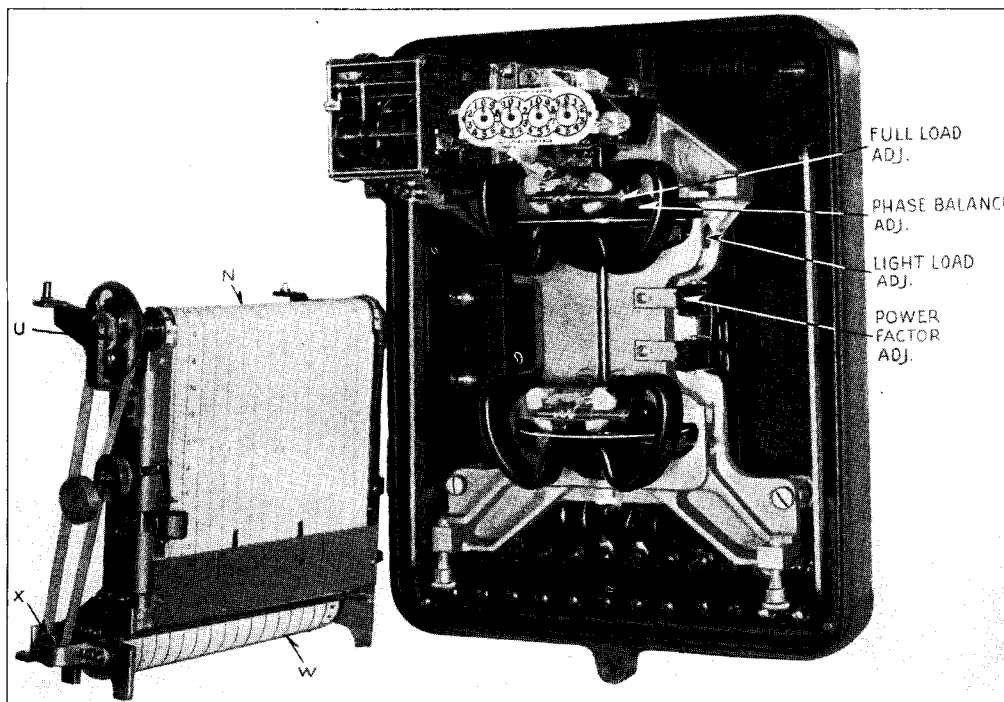
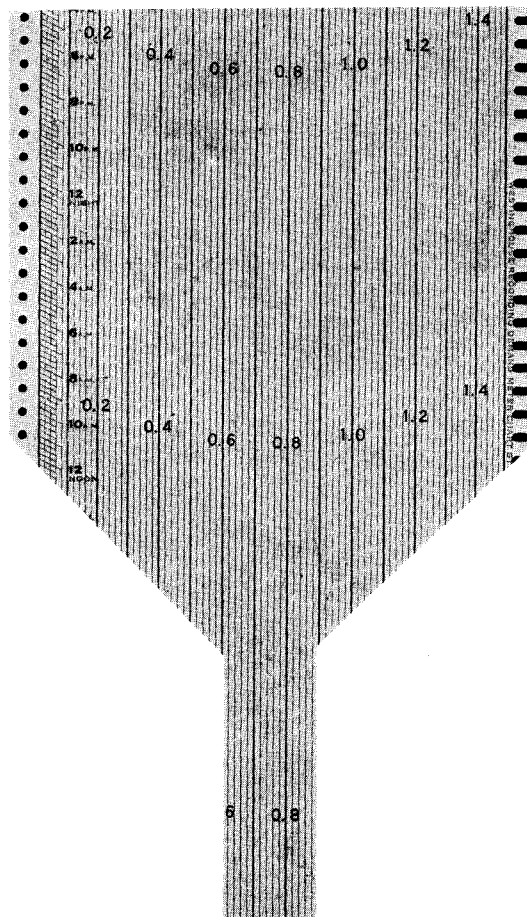

FIG. 5—RB METER WITH PAPER RE-ROLL MECHANISM REMOVED
FIG. 16—SUGGESTED METHOD FOR TRIMMING LEADING END OF PAPER CHART WHEN STARTING
3. Hold shaft (C) gearing and wind the spring $1\frac{1}{2}$ turns from the zero point.
4. Release shaft (C) gearing. The spring will then have the proper operating torque.
10. The only adjustment on this mechanism is screw (BE) which changes the position of arm (I) to make it release spring (3) at proper time. This is adjusted at the factory and should need no other attention. The paper chart unrolls from spindle (W) Fig. 5, passes upward over roll (N) on the re-roll frame and down between plates on reverse side to belt driven spool (X).
13. To feed on a new paper chart, slide the new roll endwise over the spindle (W), Fig. 5, and bring the end under the guides and over the roll (N). The locknut (U) should be loosened to allow the roll (N) to turn freely. Slide the end of the paper into slot in spool (X) and take several turns on this spool. Cutting the end of the paper to a point will facilitate this operation, Fig. 16. See that the edges of the paper do not bind under the guides.
14. To synchronize the paper with the time of day, set the paper so that the pen is on the line representing the correct interval of time, tighten the locknut (U). If the time of day falls between two interval marks on the chart, set the pen on the nearest elapsed interval mark. Then to compensate for the difference between the position of the pen and the actual time, turn the manual reset knob (located on the left hand side of the clock) in a counter clockwise direction until its pointer position corresponds to the number of minutes elapsed in that interval. The zero of the timing dial represents the end of the time interval.